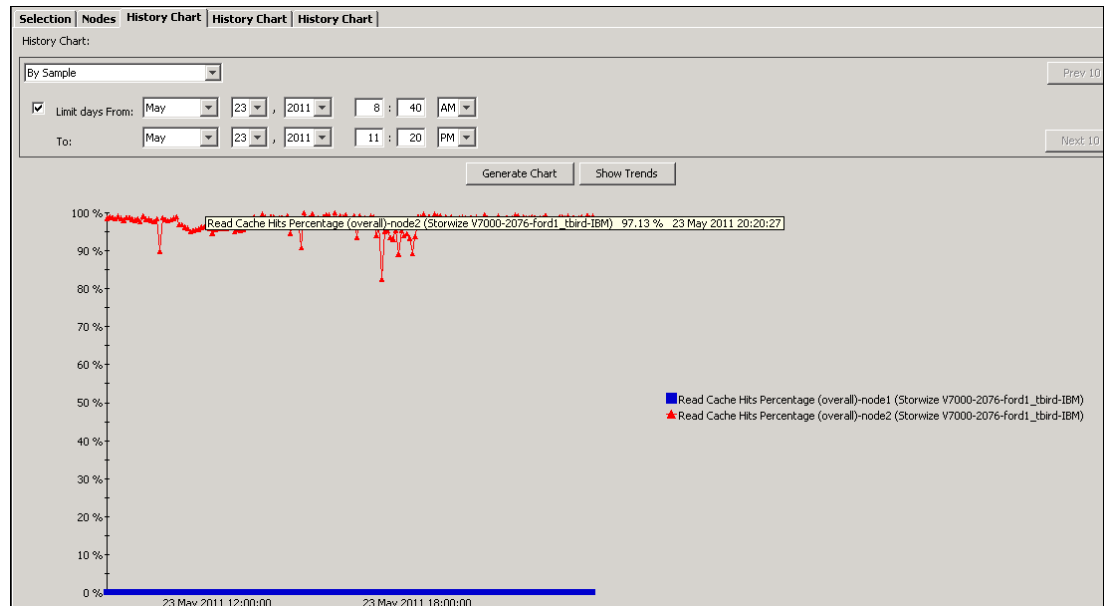

Figure 13-44 Storwize V7000 Cache Hits percentage that shows no traffic on node1
3. Select **Read Cache Hits percentage (overall)**, and then click **OK** to generate the chart, as shown in Figure 13-44.